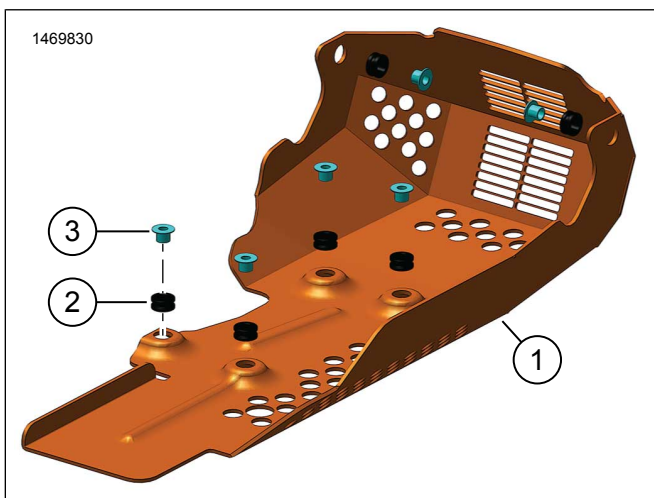

Figure 2. Assembly of Skid Plate
1. See Figure 2. Verify the assemble of the skid plate (1).